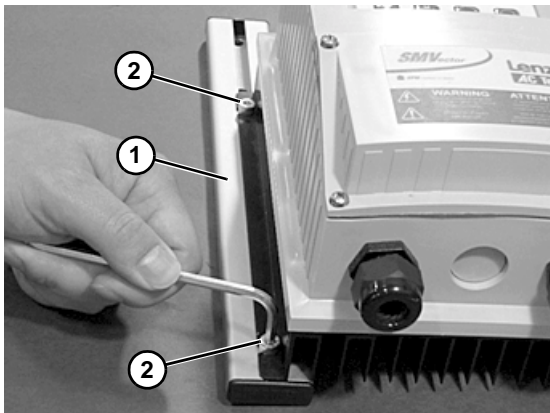

Figure 13
3. Attach mounting bars (Figure 13, item 1) to controller with M5 screws (Figure 13, item 2).